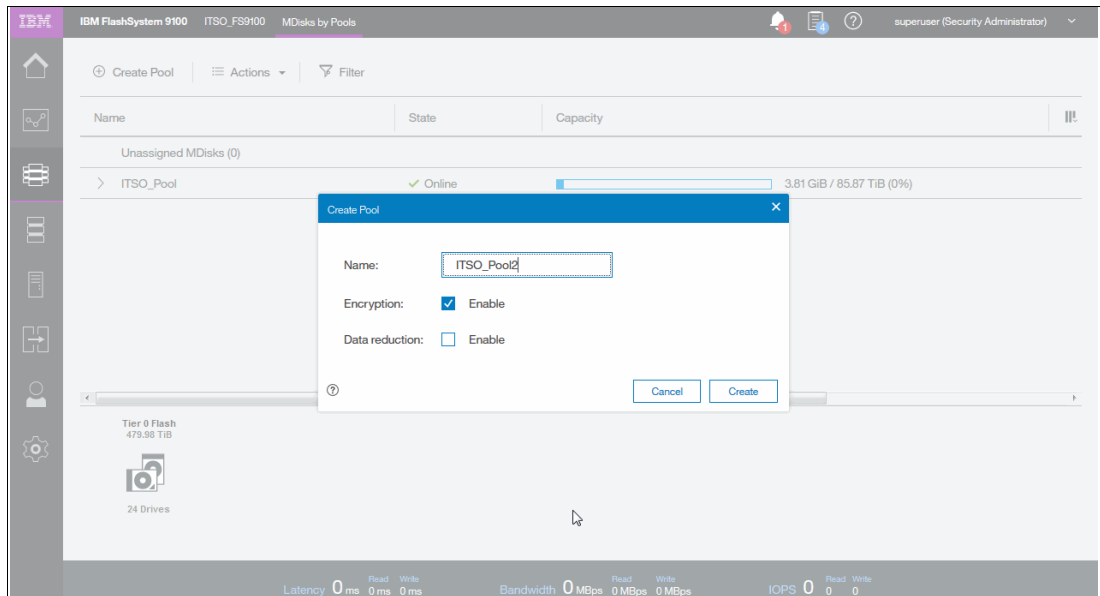

Figure 5-52 Create Storage Pool.
14. Enter the name of the new Storage Pool, for example ITS0_Pool12, as shown in Figure 5-52.